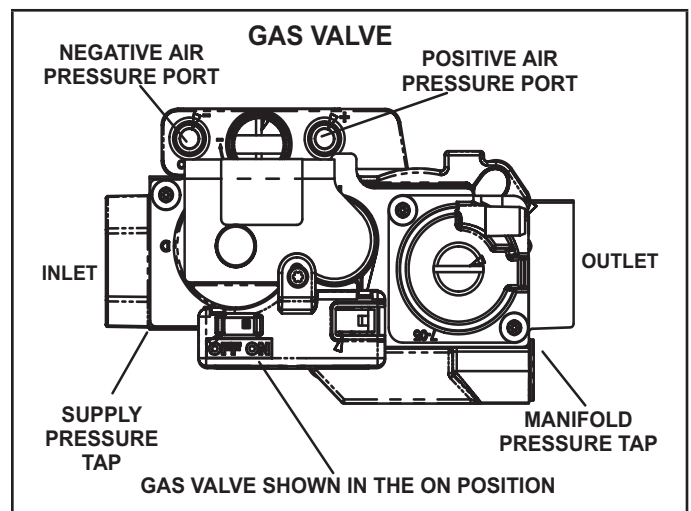

FIGURE 51
### Gas Valve Operation (FIGURE 51)
- 6 - Move the gas valve switch to the OFF position. See FIGURE 51.
- 8 - Move gas valve switch to the ON position. See FIGURE 51. Do not force.